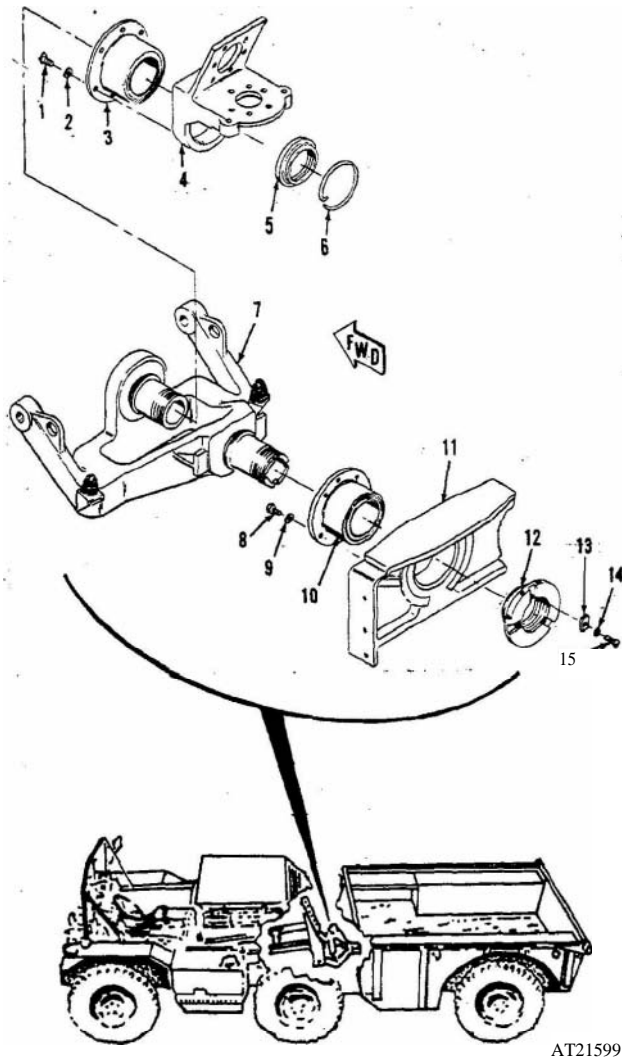

Figure 3-226. Articulation yoke assembly, exploded view.
LEGEND to fig 3-226:
a. The purpose of the articulation joint is to allow the tractor and carrier to pitch and roll independently of one another. The articulation joint houses the propeller shaft for the rear differential and supports the rear wheel steering torque tube. The articulation hitch incorporates two torsilastic rubber bearing assemblies. The articulation action comes from the torsional movement of the rubber bushings, which are bonded between steel bushings in bearings (3 and 10, fig 3-226). The bushing eliminates the lubrication requirement, minimizes the static friction effect, and stabilizes the carrier during the swimming operation.
(1) Disconnect lock plate (13, fig 3-226) from bearing nut assembly (12) by removing screws (15) and lock washers (14).
(2) Unscrew bearing nut assembly (12) from yoke (7) using spanner wrench (11602326).
(3) Disconnect lock ring (6) from bearing nut (5) and unscrew nut using spanner wrench (11602326).
(4) Remove front and rear bearing supports (4 and 11) and bearings (3 and 10) from yoke (7). Disconnect bearings from bearing supports by removing screws (1 and 8) and lock washers (2 and 9).
(6) Use nearest accessible pilot hole on bottom of bearing nut (5, fig 3-226) and drill a 3 / 32 inch hole in yoke (7). Install lock ring (6) with tang in hole drilled into yoke.
(8) Install lock plate (13, fig 3-226) engaging yoke (7) and bearing nut (12) and secure with screws (15) and lock washers (14).